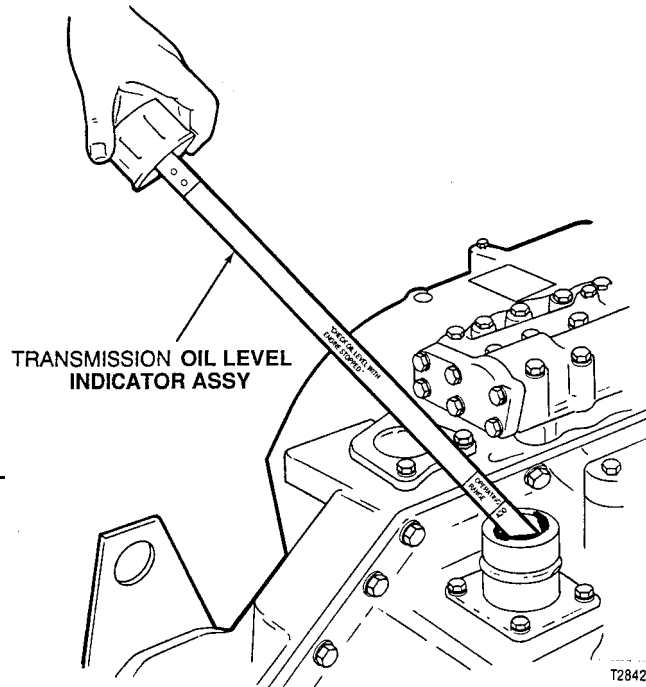

Figure 366. Measuring transmission oil level
(1) Check the transmission oil level (fig. 366). Add oil as required to obtain the correct oil level for a safe start.
(2) Start the engine (or test stand motor) and shift the transmission into 4th gear. Apply the brakes, and allow the transmission to operate at an input speed of 1200 to 1500 rpm for 3 to 8 minutes, until normal operating temperature (approximately 220 degrees F) is reached.
(3) Shift through all ranges several times to insure that the hydraulic system is fully charged. Reduce the input speed to make shifts from a forward range to a reverse range, or from reverse range to a forward range.
(4) Shift the transmission to neutral range, apply the brakes, and increase the input speed to 1200-1500 rpm and maintain for three minutes. stop engine, wait twenty minutes, then check the transmission oil level. Add or drain the oil until oil level is at the top of the OPERATING RANGE marking on the indicator (fig. 366).